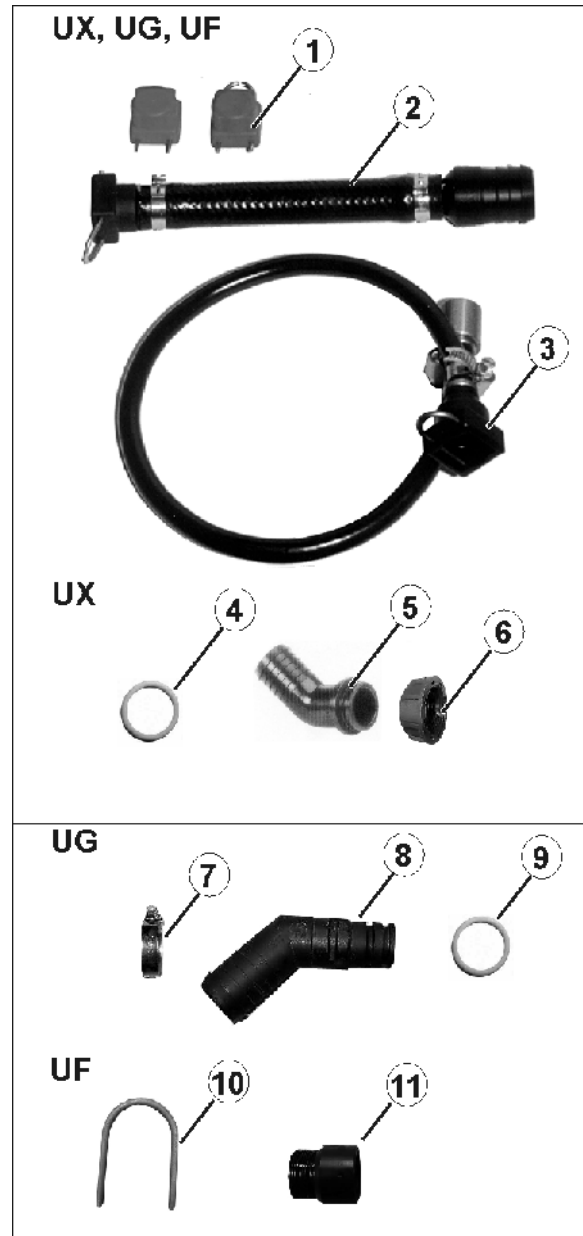

Fig. 153
2. Connect the flow meter connection (Fig. 153/2) to a part width section valve and connect to the tester.